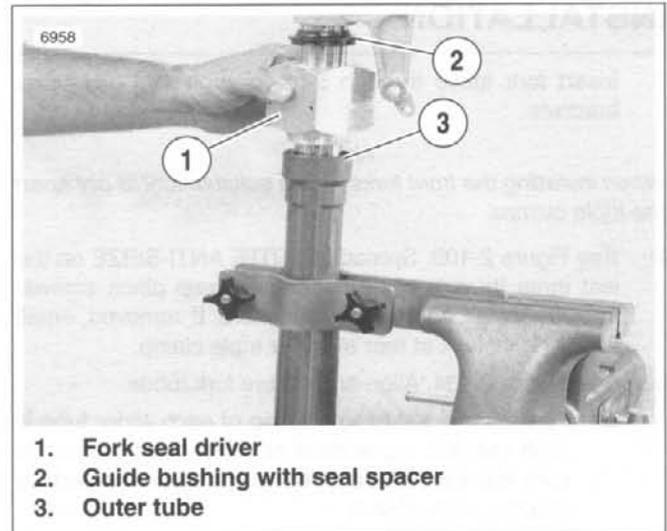

Figure 2-100. Fork Seal Driver
7. Move and tape or tie the dust seal (13) and stopper ring (12) out of the way.
8. Using FORK SEAL DRIVER (Part No. B-43721), drive the guide bushing (9) with the seal spacer (10) and oil seal (11) into position in the outer tube (4). See Figure 2-100.